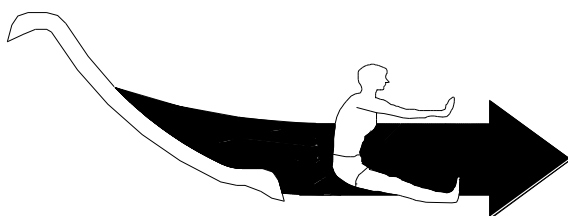

FIGURE 1
1. SLIDE FEET FIRST ONLY AS SHOWN IN FIGURE 1. **DO NOT SLIDE HEAD FIRST**
Slide users must use the sitting slide position, facing forward, feet first as shown in Figure 1.
All drawings in this Slide Owner's Manual (Figures 1 through 5) are for illustration purposes only and are NOT TO SCALE.